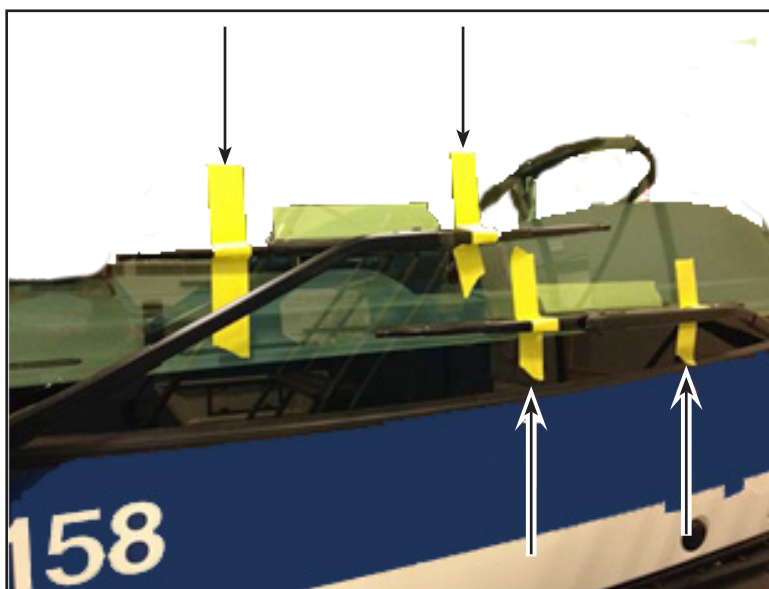

Figure 4 - Tape the Wiper Blades
- 1.6. Tape the wiper blades on the windshield to maintain their position. See Figure 4.
- 1.19. Remove tape on the wiper blades. Refer to Figure 4.